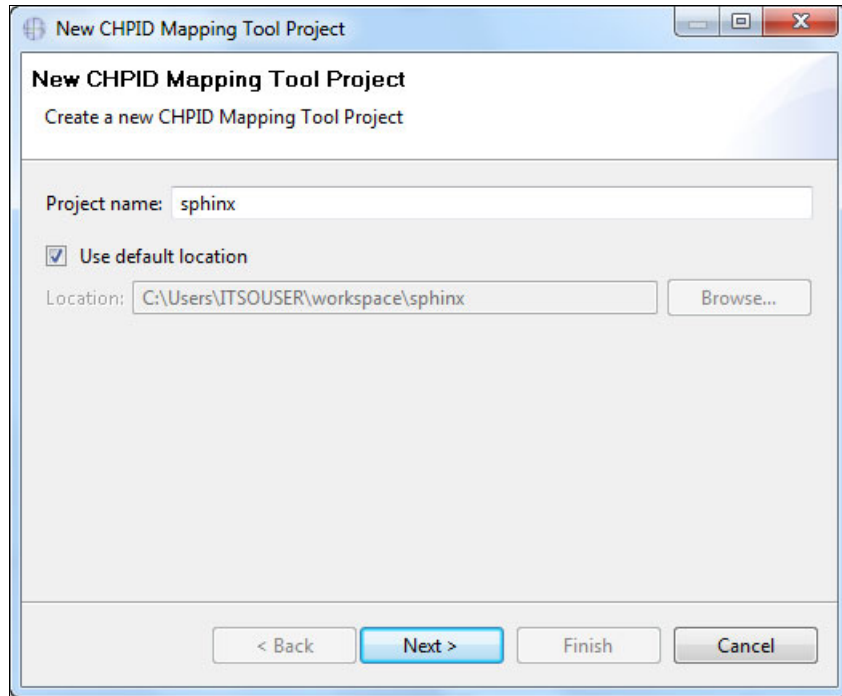

Figure 5-62 CMT - New CHPID Mapping Tool Project name
3. The New CHPID Mapping Tool Project window opens (Figure 5-62 on page 208). Use this window to specify a project name and then click **Next**.